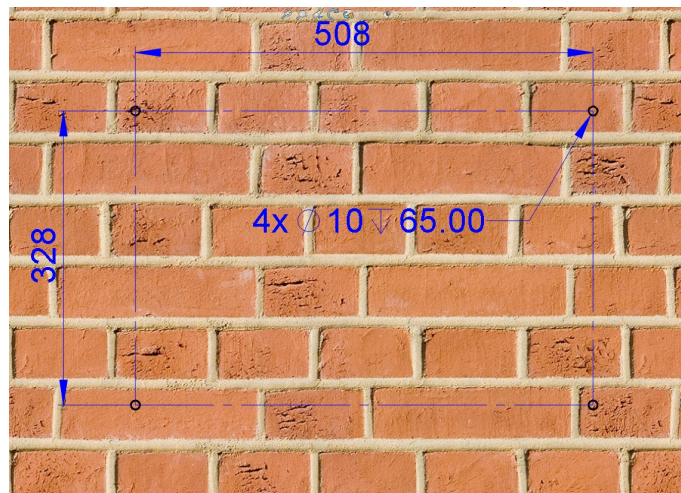

Figure 3-7 Drill holes and Install the Mounting rack on wall
3. Choice the hard wall and drawing 4 locating marks for M6x60 expansions bolts reference to Figure 3-7.